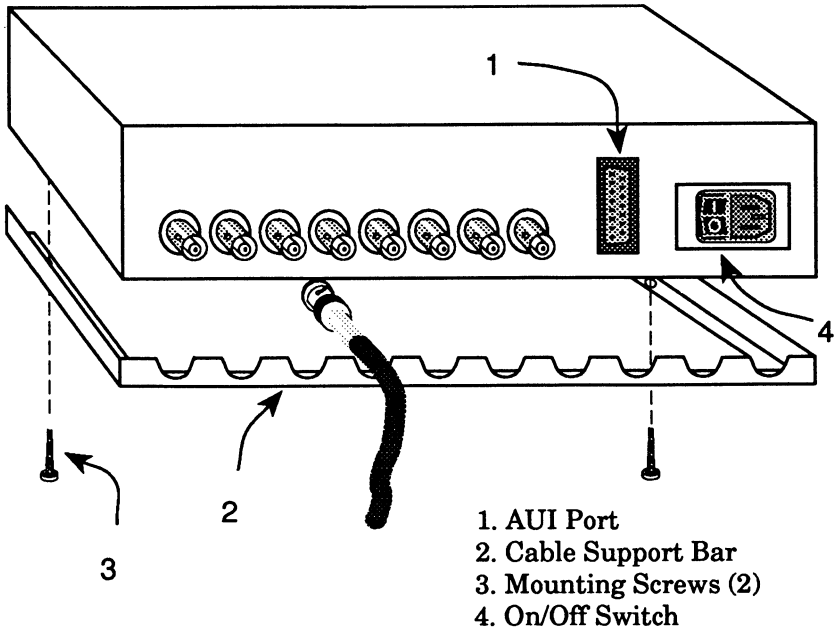

Figure 3-1. Installation
1. Using the two 8/32 inch screws (3, Fig. 3-1), attach the cable support bar (2) to the repeater.
3. Attach an AUI cable, no longer than 50 meters in length, to the AUI port (1) on the repeater.